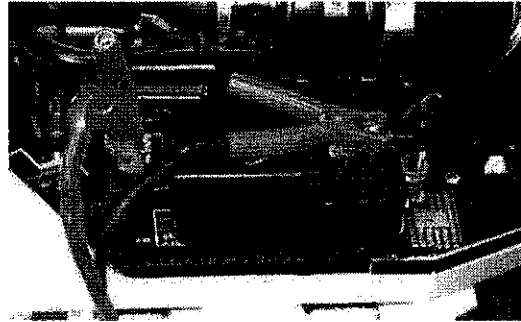

Fig. 14
1. Apply the clip to » + « -pole of the battery and connect to »+« pole of the FSE at the machine. (Fig. 14)